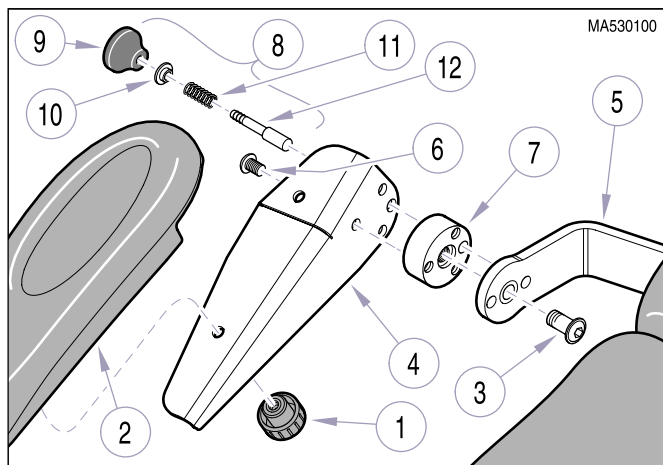

Figure 4-41. Arm Rest Locking Mechanism
- (1) Remove two knobs (1, Figure 4-41) and arm pad (2).
- (2) Remove screw (3) and upholstery mount (4) from arm weldment (5).
- (3) Remove three screws (6), arm boss (7), and knob assembly (8) from upholstery mount (4).
- (4) Remove knob (9), flanged bushing (10), spring (11), and index plunger (12) from knob assembly (8).